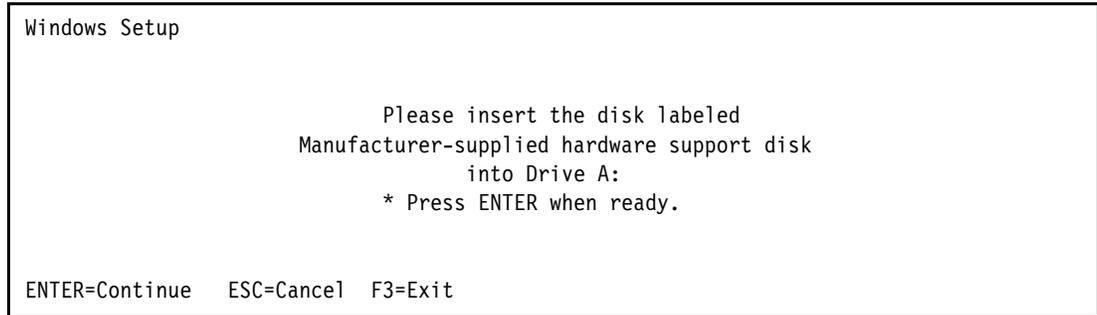

Figure 2-22 Windows Setup window
4. During the loading of the Windows 2003 operating system, select **F6 option to install the iSCSI device driver**. You will see a window similar to Figure 2-22.